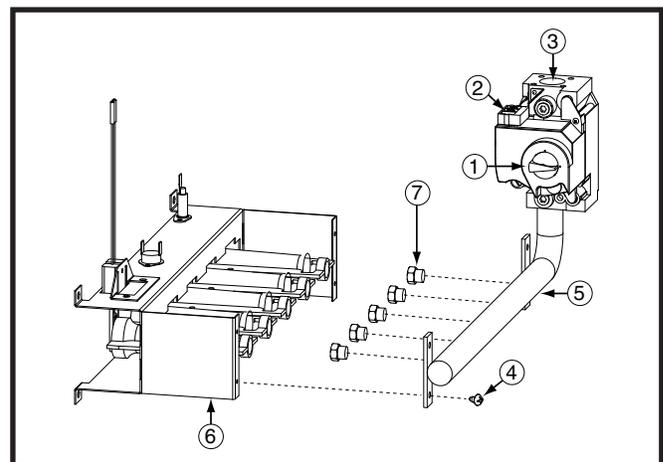

Figure 34. Burner and Manifold Assembly
1. Remove the burner orifices (Figure 34):
- e. Turn the gas valve ON/OFF knob (1) to the OFF position.